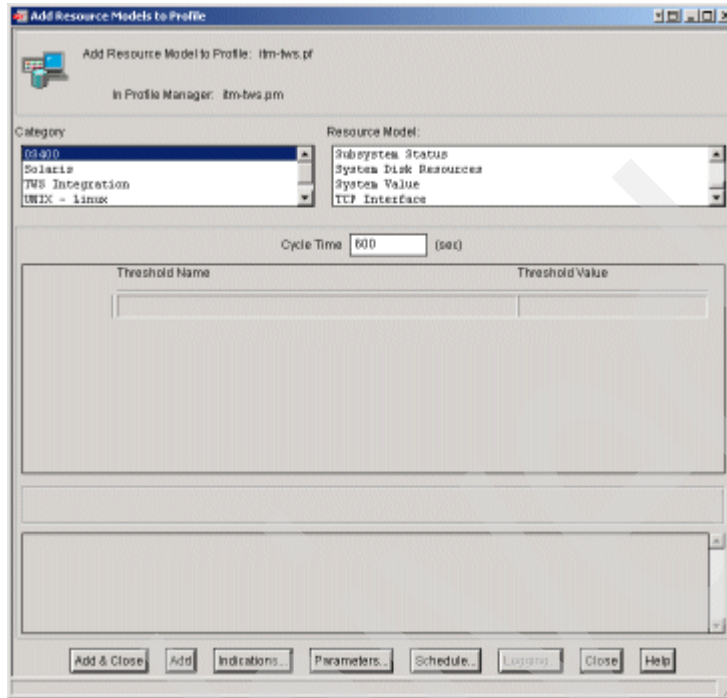

Figure 9-113 Add Resource Models to Profile window
2. Select **Add**. The Add Resource Models to Profile window opens as shown in Figure 9-113 on page 516.